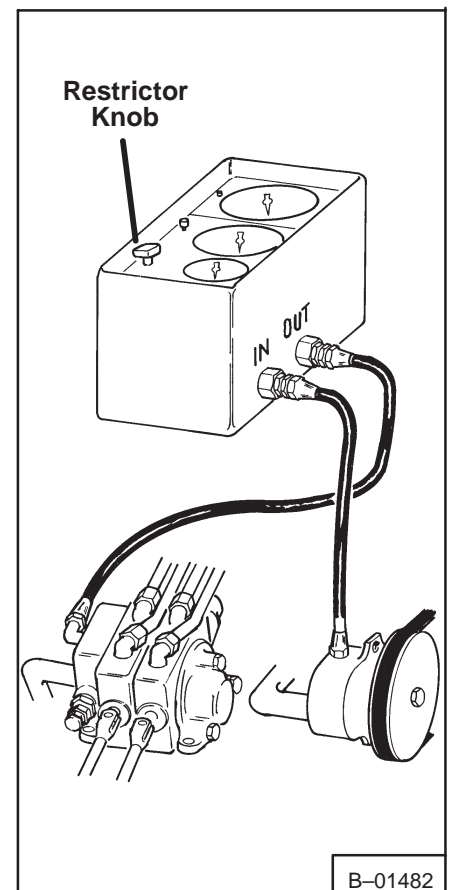

Fig. 24 Testing Hydraulic Pump
1. Remove the pump pressure hose from the control valve (Fig. 24).